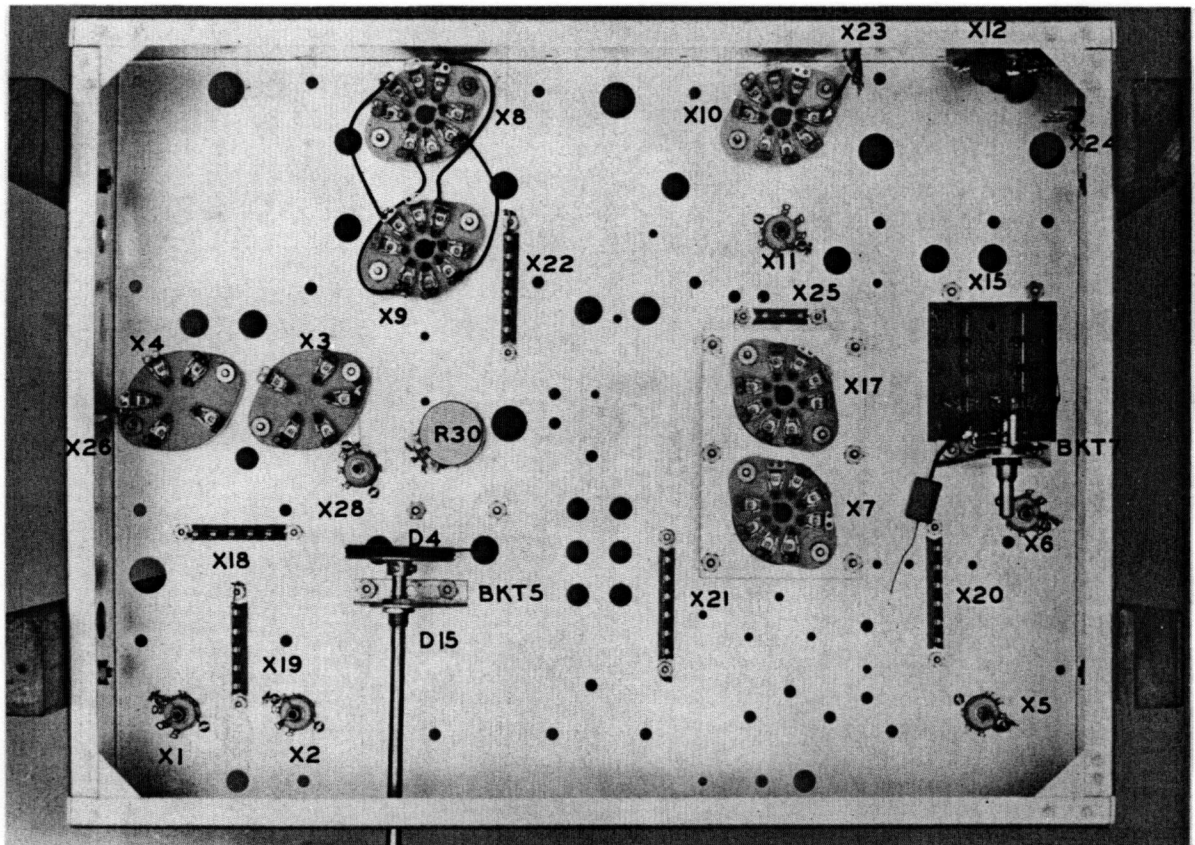

Figure 2 — Socket and Terminal Board Mounting
1. Refer to Figure 2 at the rear of the book for terminal locations. The yellow and gn-yel modulation transformer leads in Figure A and the yellow and rd-yel leads of Figure B must be disconnected from present terminations.